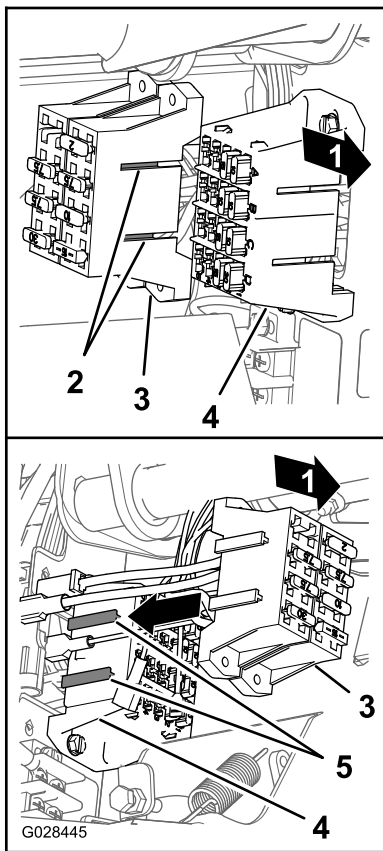

Figure 26
4. Align the T-fittings on the of the fuse block of the sprayer to the T-slots of the fuse block for the machine and slide the sprayer fuse block into the slots until the fuse block is fully seated (Figure 26).